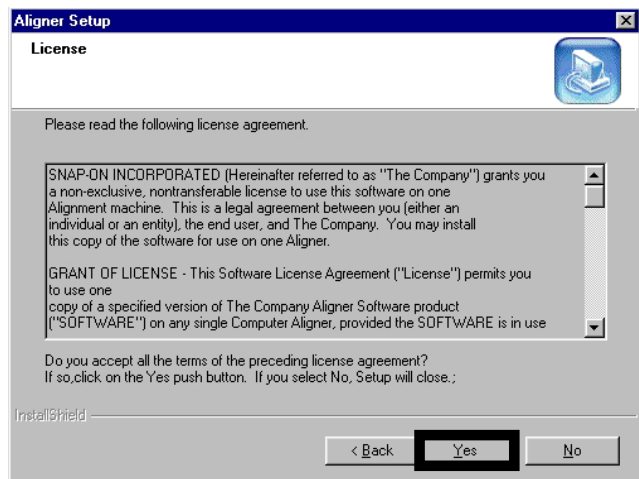

Figure 3-9
7. Read the License Agreement, if you agree click on **<YES>**. Clicking on **<NO>** will abort the installation process. (Figure 3-9)